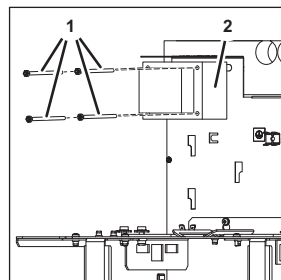

Figure 139
2. Remove the fastening bolts (Figure 139/1) from the transformer (Figure 139/2).
3. Remove the transformer (Figure 139/2).
4. Position the new transformer (Figure 139/2) within the unit.